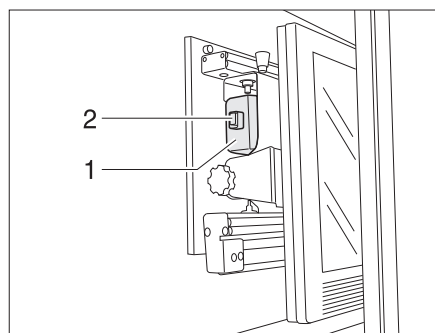

Fig. 6 Holder in the TV cabinet
- Insert the holder for the flat screen on the handle (Bild 6,1) until the latch (Bild 6,2) locks into place.